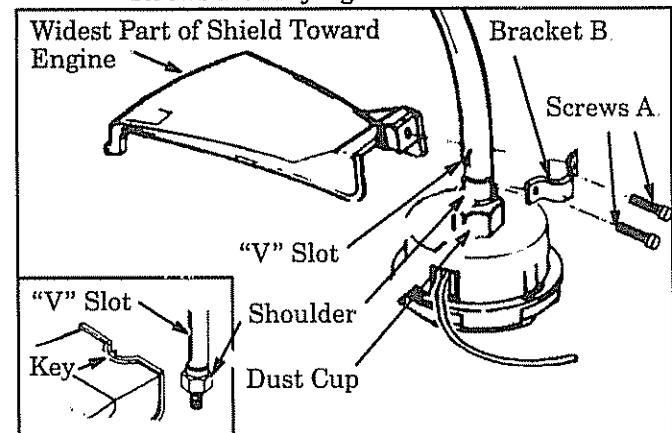

Figure 3
- Match key (raised area) on the shield with the "V" slot on the tube. Figure 3.
- Install bracket "B." and screws "A." as shown in Figure 3.